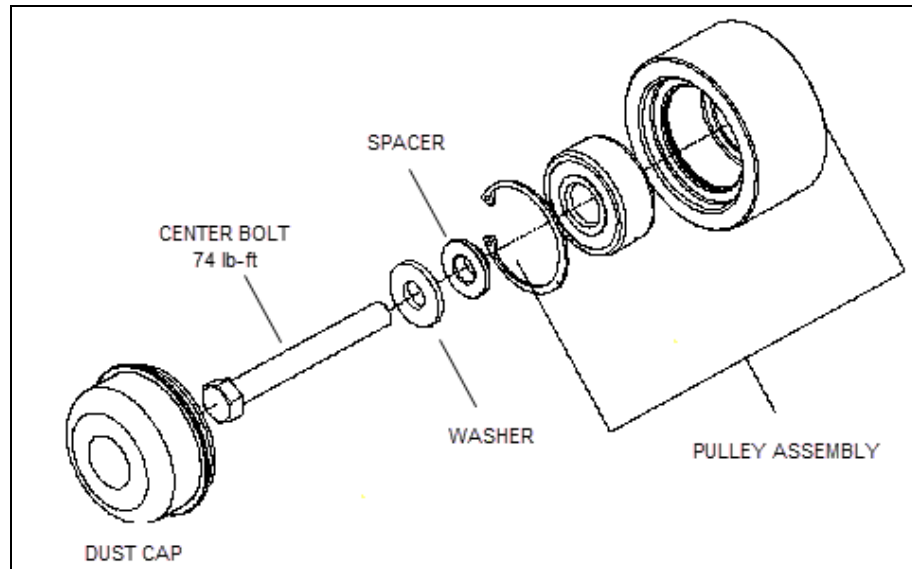

FIG.5 ALTERNATOR IDLER PULLEY INSTALATION
NOTE: Be cautious not to lose the spacer and washer (Fig.5) behind the bolt head.
1. Reinstall the alternator idler pulley on the vehicles as per Fig.5 below. Center bolt must be torqued to **74 lb-ft**. Apply yellow torque seal to the bolt head once completed (Fig.5).
2. Put back the center dust cap over the idler pulley using a rubber mallet to avoid cap deformation (Fig.5 above).